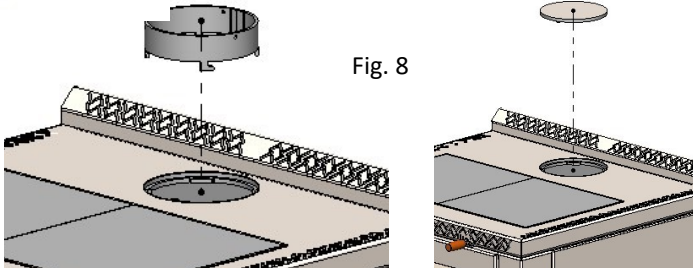

Fig. 8
2. Remove top exhaust ring and install top exhaust plug. See Fig. 8.